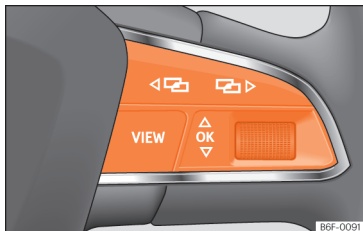

Fig. 127 Right side of multifunction steering wheel: buttons to the menus and informative indications on the instrument panel.
As long as a priority 1 » page 110 warning is active, it will not be possible to access any menu. Some warnings can be confirmed and hidden with the button **OK** of the multifunction steering wheel » **Fig. 127**.
- If a message or vehicle symbol is displayed, press the button **OK** » **Fig. 127**; if necessary, several times.
- To change menus, use buttons **<** or **>** » **Fig. 127**.
- To open the menu or the information displayed, press the button **OK** » **Fig. 127** or
- In the menu displayed, turn the right thumb-wheel of the multifunction steering wheel » **Fig. 127** until the desired option of the menu is highlighted. The option appears framed.
- Press the button **OK** » **Fig. 127** to make the required modifications. A mark indicates that the system or function is activated.
Press the button **<** or **>** » **Fig. 127**.